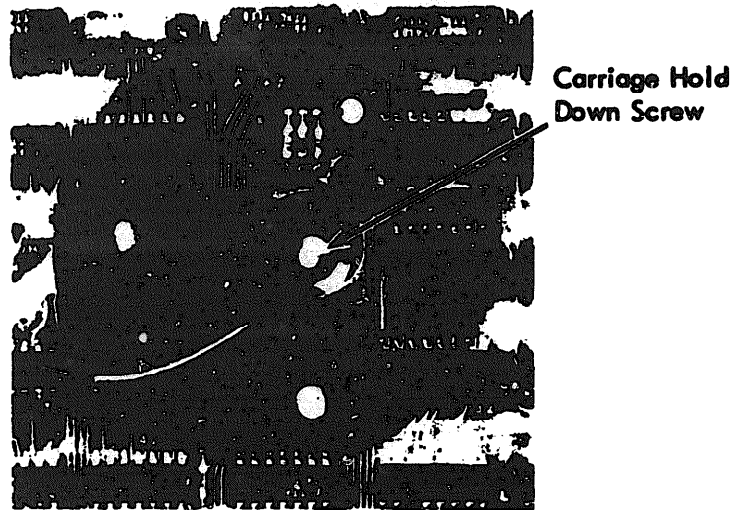

Figure 2-2, Carriage Hold-Down Screw and Flag
- 2.1.4 Remove the carriage hold down screw and flag (Figure 2-2).
- Remove top and rear covers from drive and install carriage hold down screw using 4 to 6 in.-pounds of torque. (Ref: Figure 2-2).